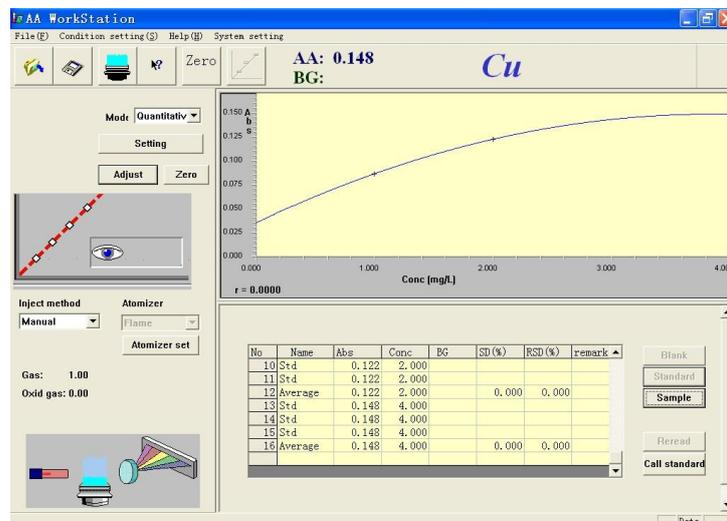

Figure 5-19
9. After the standard sample testing is complete, the screen will be shown as that in Figure 5-19.